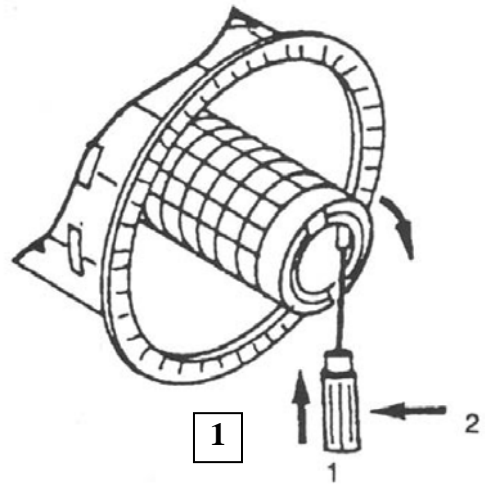

Fig. 11 Opening the seal (Model B)
- Pierce through the seal (webbing) of the secondary element using a suitable tool (e.g. screwdriver) from the inside to the outside and pull up the two tabs (refer to Fig. 11). **Only open the seal (webbing) to change the secondary element.**